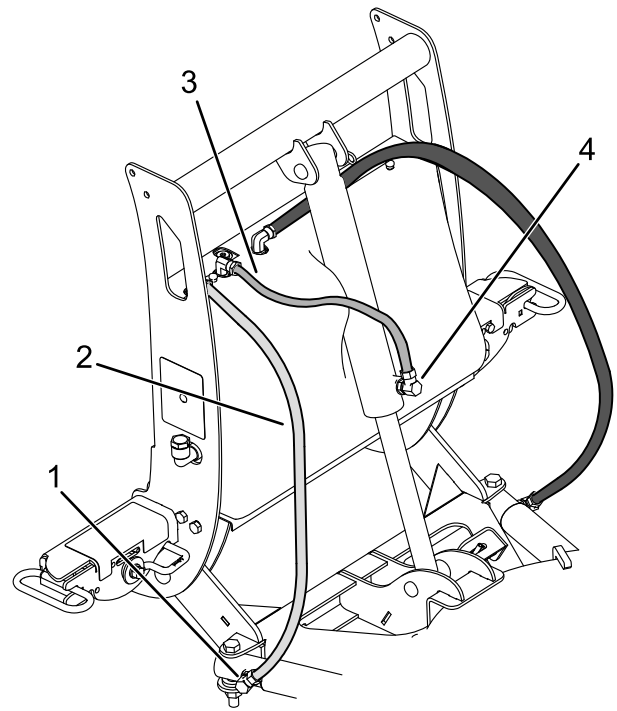

Figure 6
- Using thread compound, install a 90° fitting to the lower port on the lift cylinder (Figure 6).
- Install the 39 cm (15-1/2 inch) hydraulic hose to the middle fitting on the hydraulic shelf and the previously installed 90° fitting (Figure 6). Turn the fitting until it is finger tight, then turn it 2 to 3 more times.
- Using thread compound, install a 90° fitting to the right angle cylinder located on the push-frame assembly (Figure 6).
- Install the 76 cm (30 inch) hydraulic hose to the right fitting on the hydraulic shelf and the previously installed 90° fitting (Figure 6). Turn the fitting until it is finger tight, then turn it 2 to 3 more times.